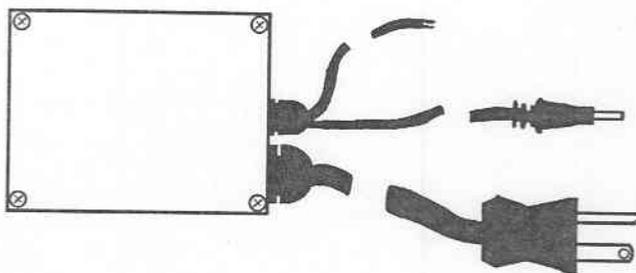

Figure 1-4. Power supply.
c. *Power supply (fig 1-4).* The multivoltage power supply provides for operation of the ventilator on multiple alternating current (AC) and direct current (DC) power sources. It also serves as a source of electrical power for recharging the ventilator's internal batteries.